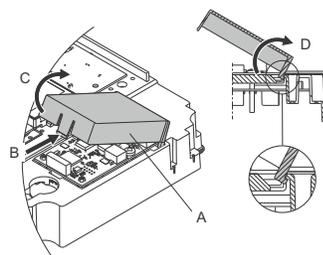

Fig. 13 Removing the CIM cover
2. Remove the CIM cover (fig. 13, A) by pressing the locking tab (fig. 13, B) and lifting the end of the cover (fig. 13, C). Then lift the cover off the hooks (fig. 13, D).